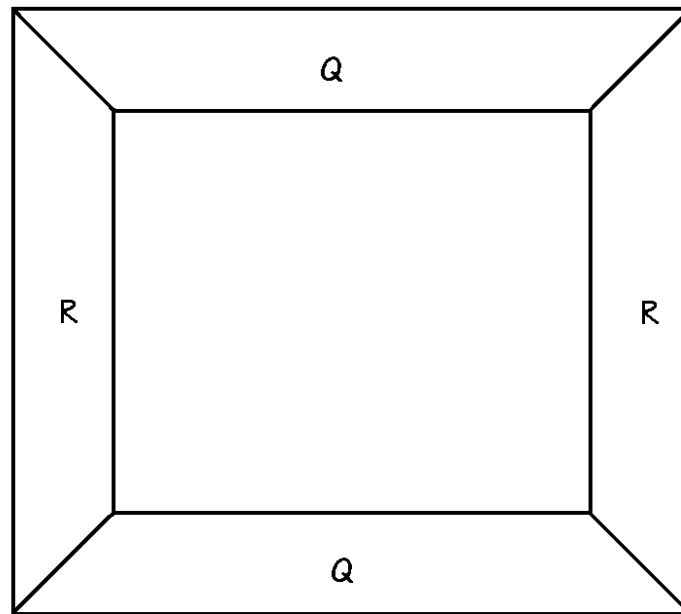

Figure 10
4. Position the two Long Bases (Q) on a flat surface, parallel to each other and 14 " apart. Fit the two Short Bases (R) at the ends of the two Long Bases (Q) to form a 23-1/2 x 21" rectangle, as shown in *Figure 10*. Apply glue to the meeting surfaces, and screw through both sides of each corner using two 3" screws on each corner. Reinforce each joint by adding a corrugated metal fastener across the inner corner of each joint.
5. Center the assembled birdhouse table over the base, making certain that the base extension is the same on all four sides. Toenail through the lower edges of the Front (A), Back (A) and Sides (C) into the base, using 2-1/2" finish nails spaced about every 2 inches around the perimeter.